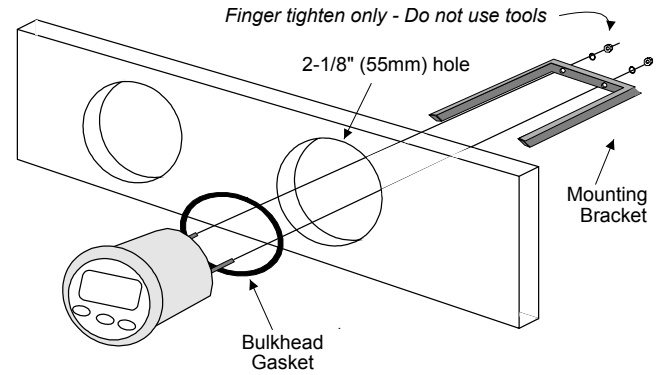

Figure 1
- Drill a 2-1/8" (55mm) mounting hole where you desire to mount the instrument (Figure 1).